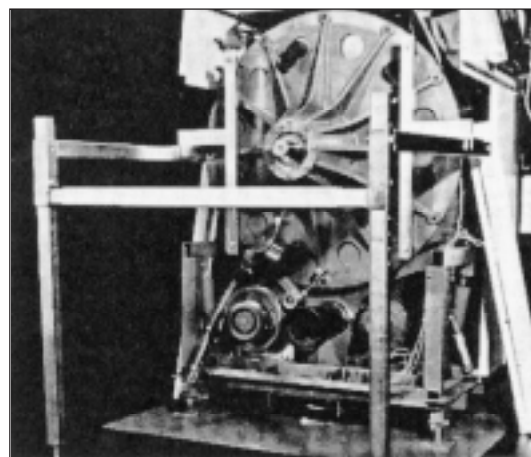

Figure 19. Installing the rear gable
42. Carefully push the rear gable forward, making sure that the bearings are not pushing against the shaft, see figure 19. If the bearings do push, the support legs must be adjusted.